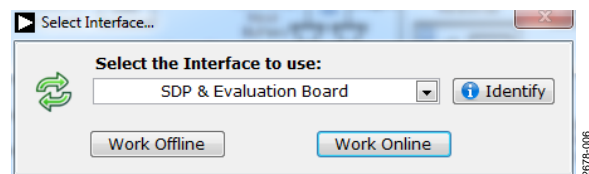

Figure 6. Select Interface Dialog Box
2. If the AD7172-4 evaluation system is not connected to the USB port via the EVAL-SDP-CB1Z when the software is launched, the **Select Interface...** dialog box appears (see Figure 6).
3. Connect the evaluation board to the USB port of the PC, wait a few seconds, and click the green double arrows, shown in Figure 6, to rescan the USB ports. When connected, click **Work Online** to proceed (see Figure 6).